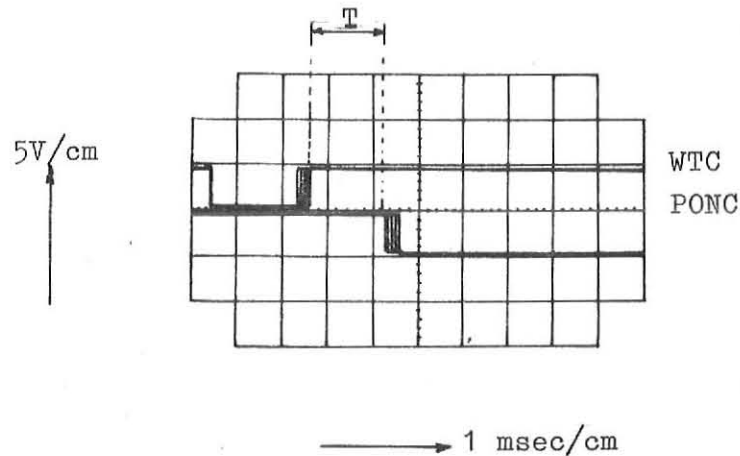

Fig 7-19
- 16) Do point 15 again, with the following scope connections. Trigger the scope positive, extern to signal EC pin 13 of card DC. Connect channel A to signal WTC pin 27 of card HUP, and channel B to signal PONC pin 19 of card HUP. In all the areas, the signal WTC must stay a '1' after signal PONC goes to a '0', (seek error). The relationship between WTC and PONC is shown in fig. 7-19. The time T must be at least 1 msec.